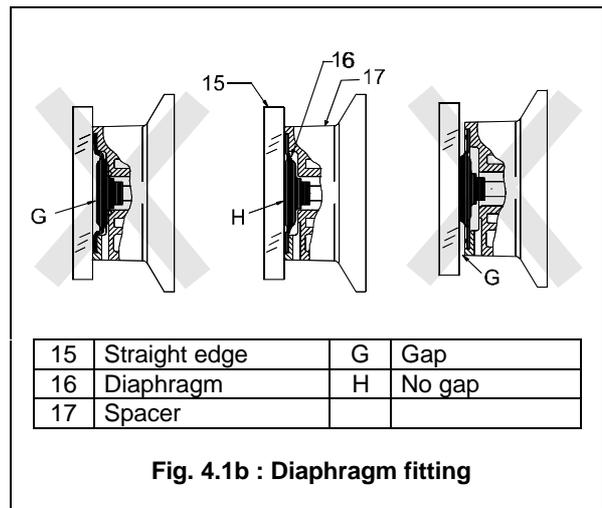

Fig. 4.1b : Diaphragm fitting
7. Grasp the outer edge of the diaphragm and adjust by screwing it in or out so that the center of the diaphragm is flush with the outside of the spacer edge (see fig. 4.1b). Once the diaphragm is properly positioned, remount the pump head to the spacer using the screws. Tighten in a crisscross pattern.